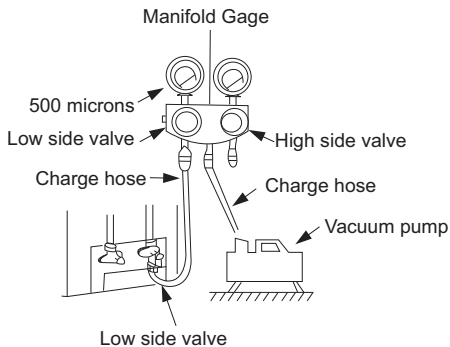

Fig. 19 - Manifold
3. Fully open the low side of manifold gage. (See Fig. 19)